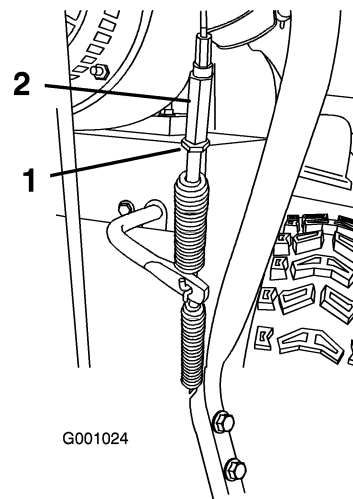

Figure 40
5. Loosen the jam nut (Figure 40).
6. Loosen or tighten the turnbuckle that adjusts the tension on the cable (Figure 40).